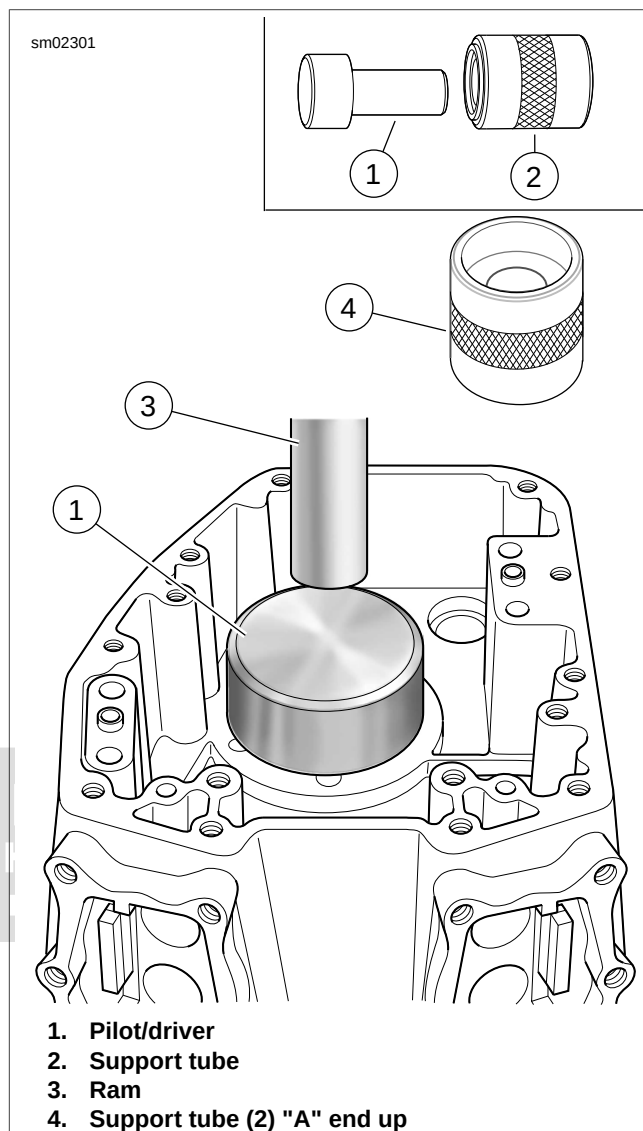

Figure 3-124. Right Main Bearing Removal
1. See Figure 3-124. Obtain CRANKCASE BEARING REMOVER/INSTALLER (Part No. B-45655) and CRANKCASE BEARING REMOVER/INSTALLER BASE (Part No. HD-42720-5).
2. Place support tube (2) on hydraulic press table with the "A" end up. Note that the sides of the support tube are stamped to ensure proper orientation.
3. With the outboard side of the right crankcase half facing upward, position main bearing bore over support tube. During removal it is important that the curved edges on the pilot/driver (1) match the curved edges of the crankcase.
4. Slide pilot/driver (1) through bearing into support tube.
5. Center pilot/driver under ram (3) of press. Apply pressure to pilot/driver until bearing is free.